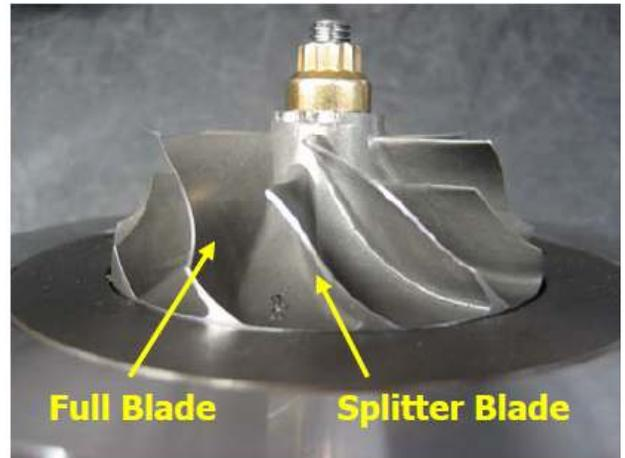

Fig 3
5. Count the number of blades on your compressor wheel, including small (splitter) blades. Record this number below; you will need it later (see figure 3).